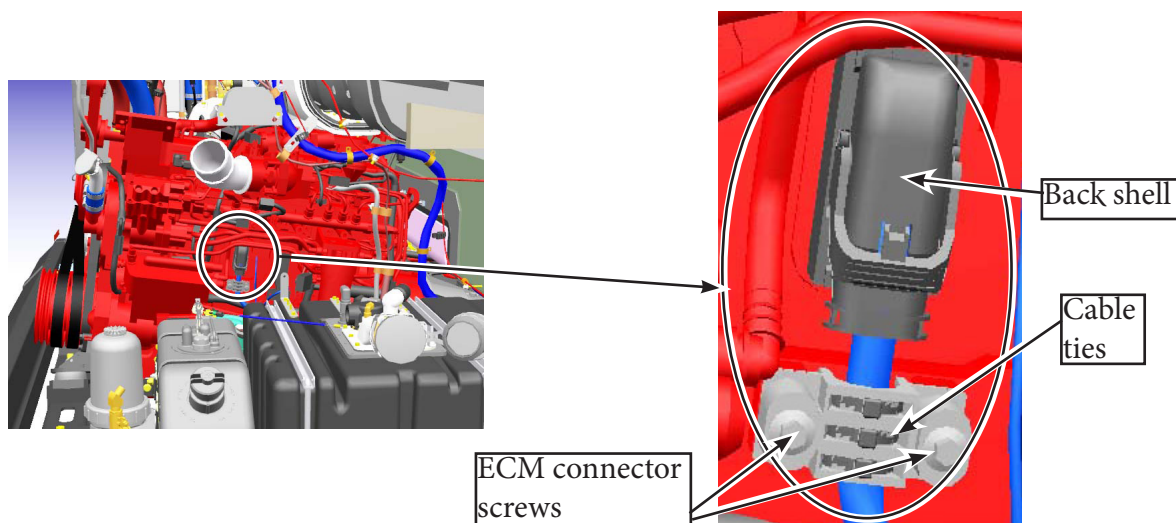

Figure 28 - Disassemble the ECM Connector
- 2.15. Remove the two ECM connector strain relief screws, disconnect the ground splice connector and cut the 3 cable ties (see Figure 28).